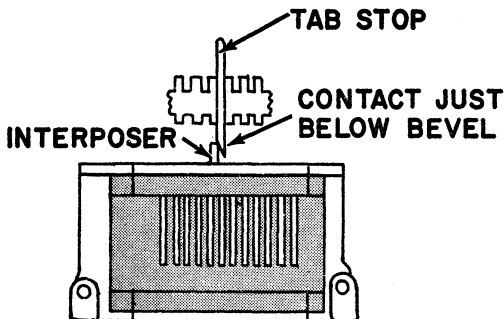

Figure 8. Tab Rack Height Adjustment
c. Adjust the tab rack up or down at each end so that a raised interposer will overlap a set tab stop by .045" to .060". Adjustment can be observed by moving the carriage to the right by hand until the beveled side of a set tab stop contacts a raised interposer. The point of contact should be just below where the bevel begins (Figure 8). Adjust both ends of the rack the same. The tab rack center support must be adjusted up or down so that contact at the center is the same as at the ends. The contact point **MUST** be below where the bevel starts to insure that the carriage will not lock up during carriage return if an interposer fails to restore.